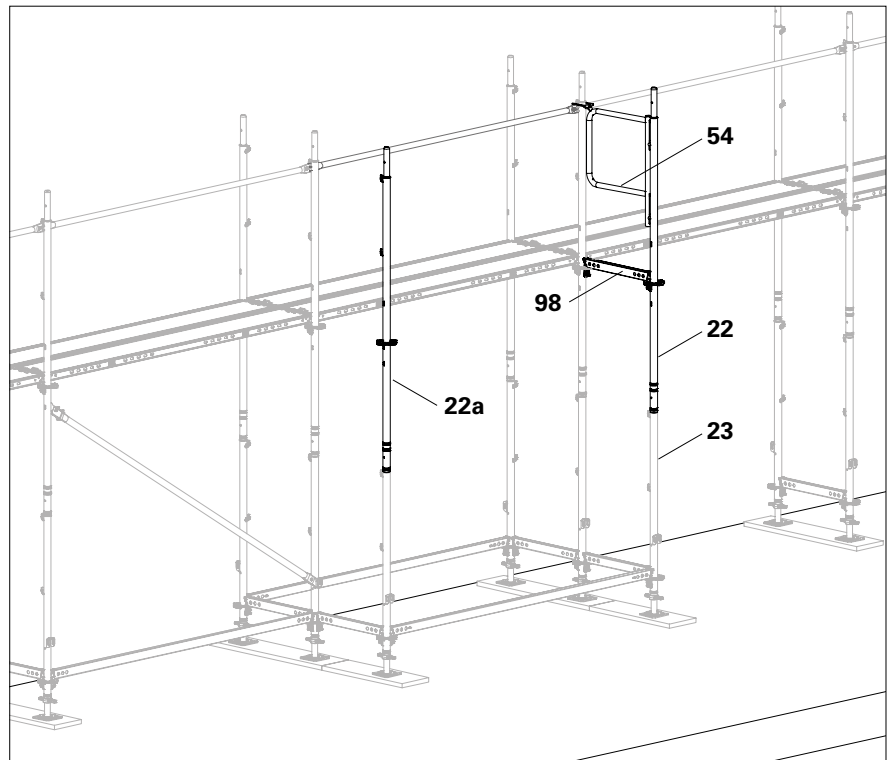

Fig. B8.03
1. Pre-assemble End Guardrails EPF (54) on an Easy Standard EVM (22).
2. Fit Easy Standard EVM (22) with pre-mounted end guardrail (54) onto Easy Base Standard EVS (23).
3. Fit Horizontal Ledger UH-2 67 (98) between Easy Standard (22) and base scaffold as an upper stair support. Secure the wedges.
- (Fig. B8.03)